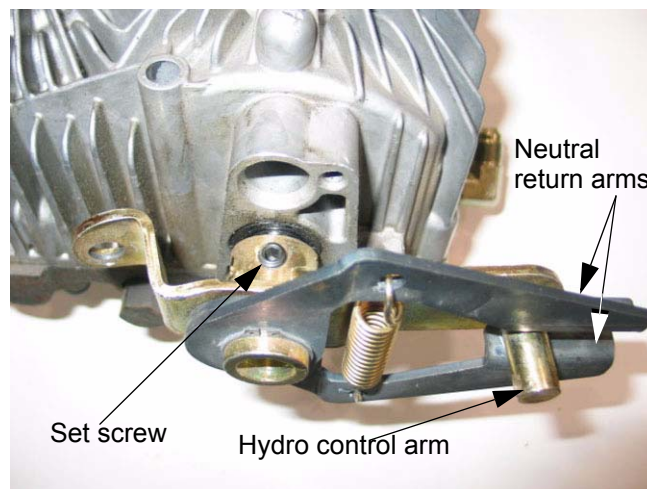

Figure 3.9
- 3.9. Check that the set screw holding the control arm to the hydro control shaft has not backed-out, worn, or sheared. See Figure 3.9.